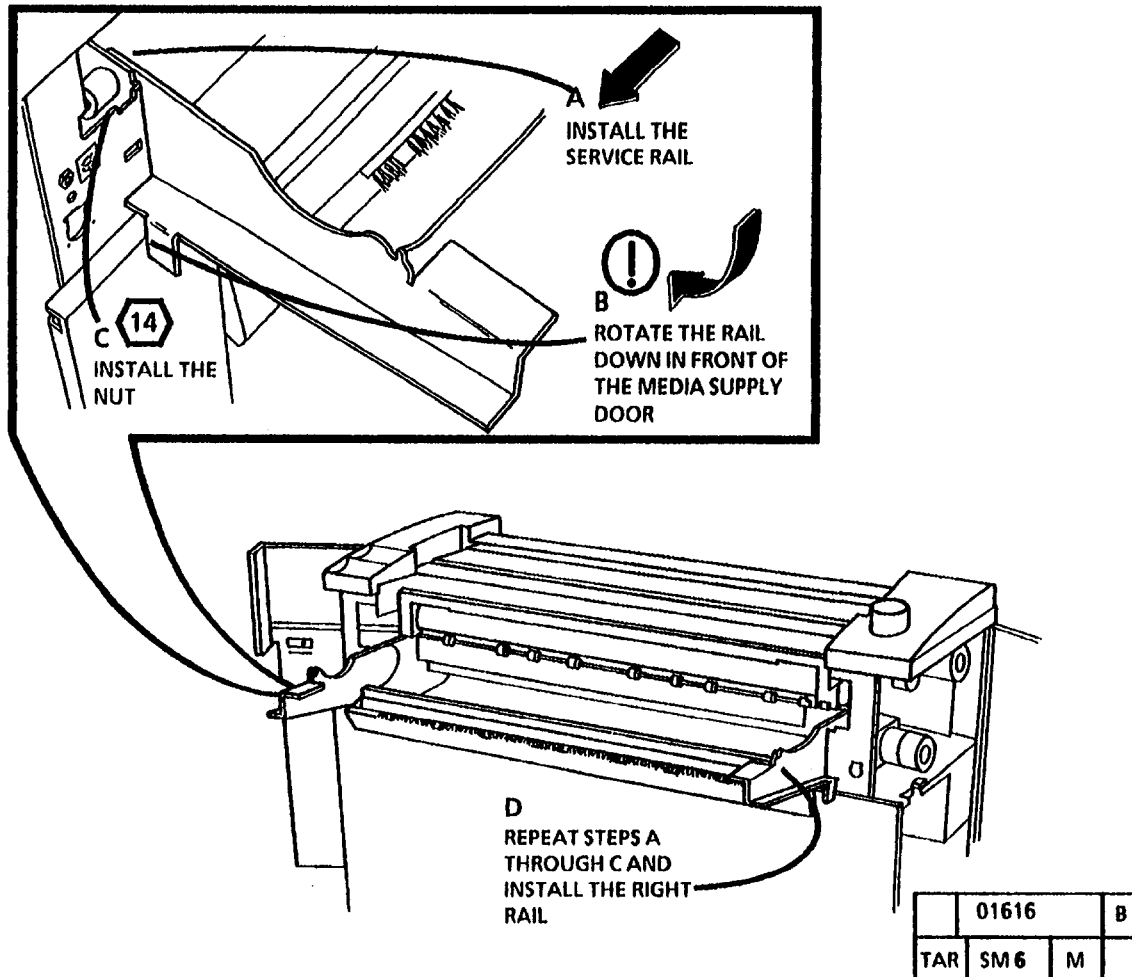

Figure 20. Install the Service Rails
21. (Figure 20): Install the Service Rails.